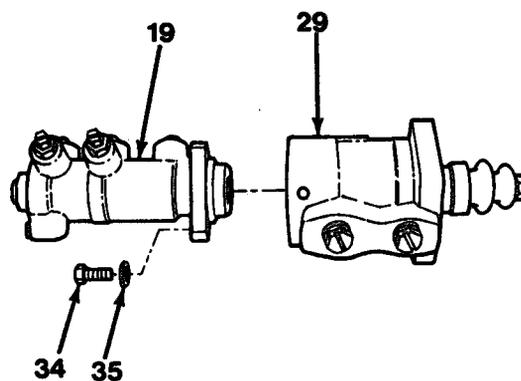

Figure 17-4
16. Align matchmarks on brake booster valve (29) and master cylinder (19). Install three washers (35) and capscrews (34, Figure 17-4).